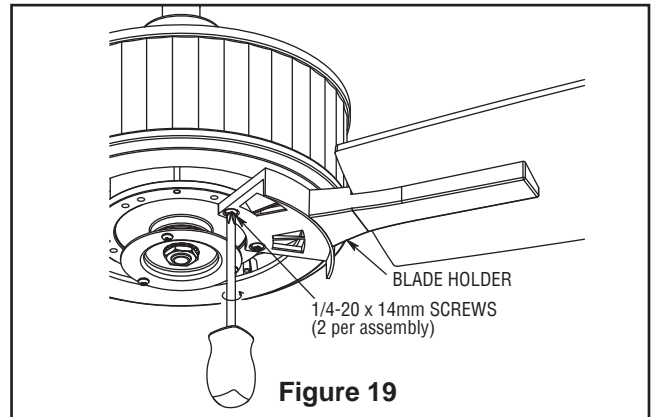

Figure 19
2. Secure the blade holders to the motor support using the 1/4-20 x 14 mm screws through the holes located on the side of the motor support (Figure 19).